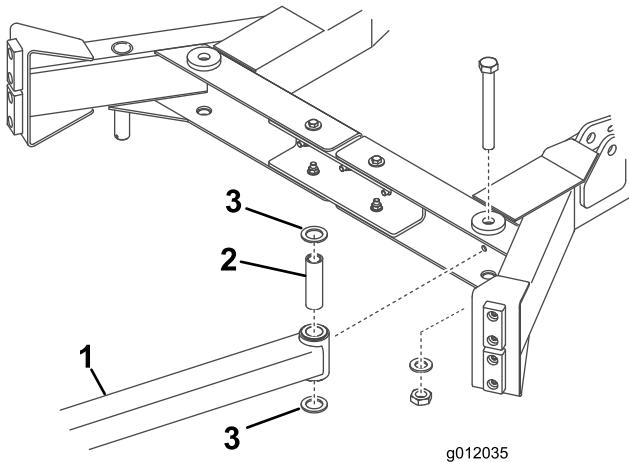

Figure 11
1. Secure left broom arm to left lift arm with a 3/4 x 6-1/2 inch screw, spacer, (2) thrust washers, .813 x 1.500 flatwasher and 3/4 jam nut (Figure 11). Thrust washers to be positioned between broom arm bushings and inside of lift arm. Torque the jam nut to 145–190 ft-lb.